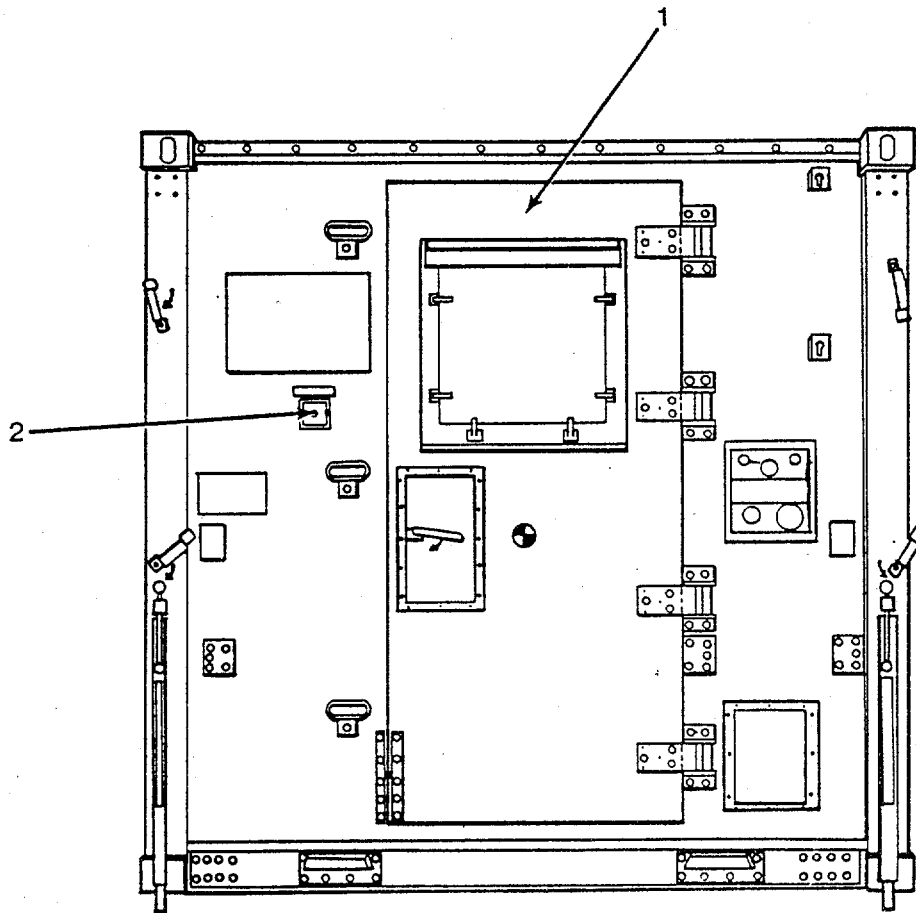

Figure 1-2. Outside Front View of Finishing Section
1-10. LOCATION AND DESCRIPTION OF MAJOR COMPONENTS. Left and right orientation is determined by facing the ISO shelter personnel door from the outside. Paragraph numbers below correspond to callouts in Figures 1-2 through 1-4. All equipment is located in its operational position.
a. Outside Front View of Shelter. Refer to Figure 1-2 for location of major components.
(1) Personnel Door - Provides means for entering the shelter.
(2) Blackout Button - When depressed, sounds buzzer. Used only during blackout conditions.